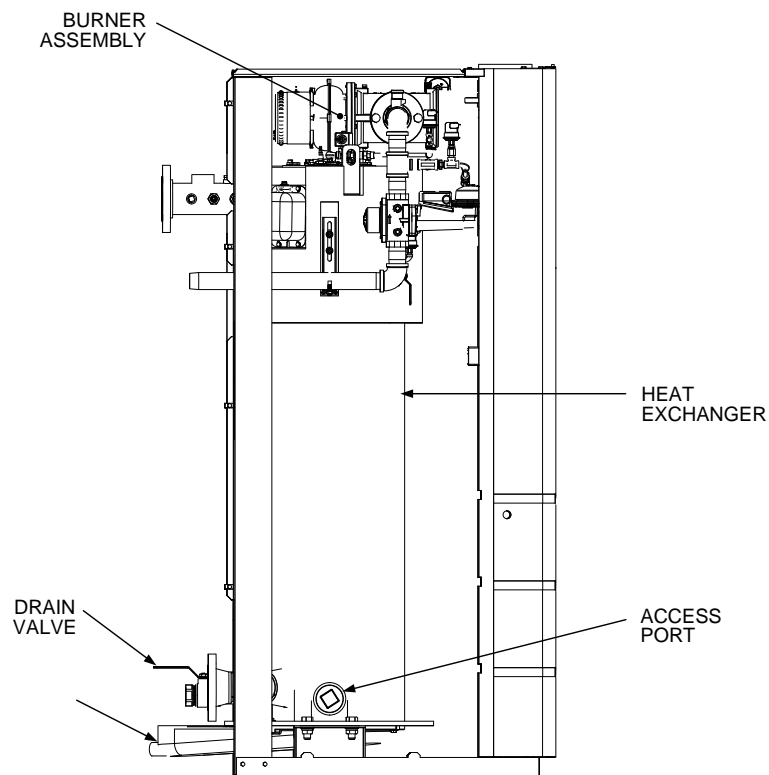

Figure 2. Benchmark 1.5LN - (Right Side View)
Benchmark 1.5LN units contain a single heat exchanger as shown in Figure 2. Perform the waterside inspection as follows:
5. After the heat exchanger has been drained, remove the 2-1/2 inch access port plug on the left side of the heat exchanger, as shown in Figure 2.